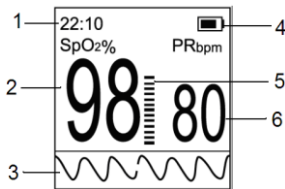

Fig.3-3
### Description of Fig.3-3
**Note:** The system returns to the measurement screen as shown in Fig.3-3 in case keys are pressed for 10 seconds.